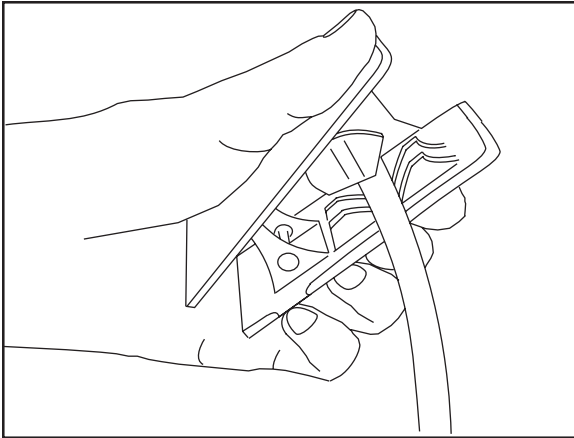

Figure 20
Cut the air line assembly (AA) in two equal lengths (Fig. 20).